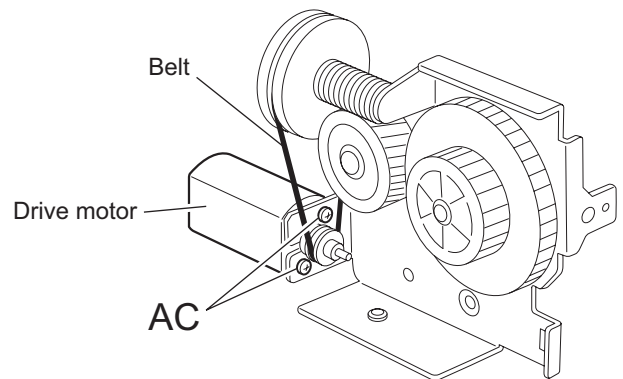

Fig.41
2.2.6 Removing the belt / drive motor (See Fig.41)